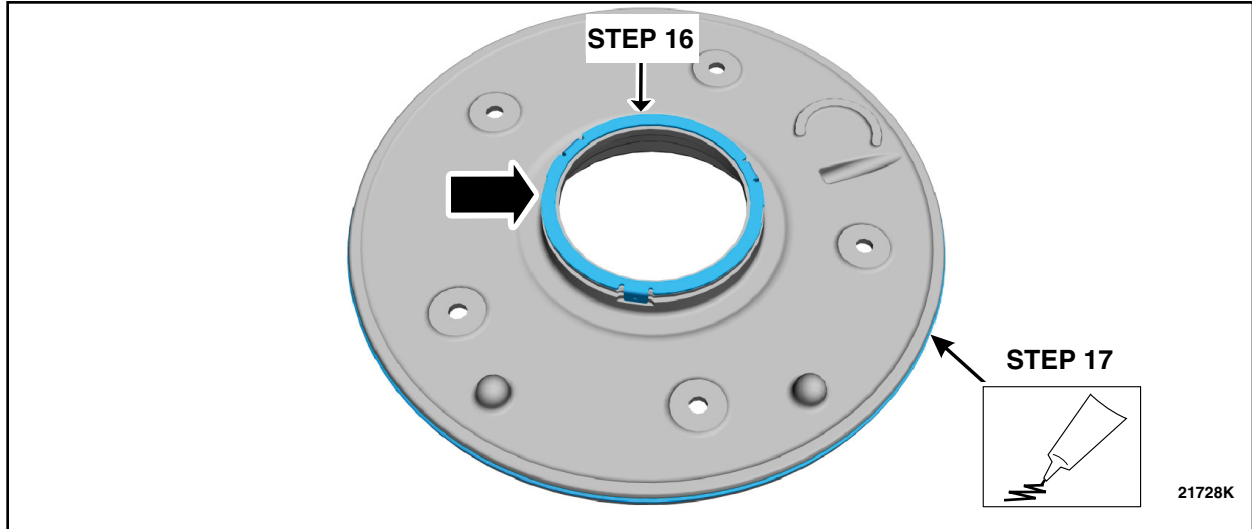

FIGURE 11
14. Install the *new* front support cover seal. Lubricate the seal with petroleum jelly. See Figure 11.